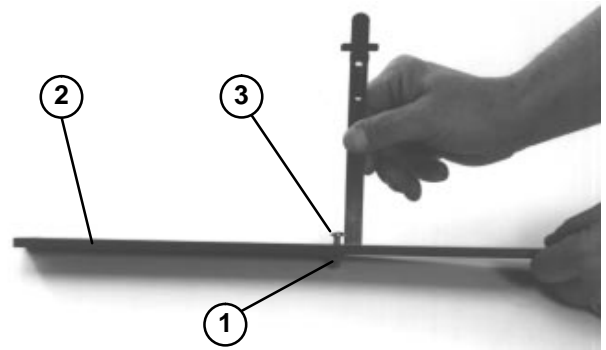

Figure 14
4. Loosen nut on gauge bar and set adjusting screw to desired height-of-cut. Distance between bottom of screw head and face of bar is height-of-cut (Fig. 14).